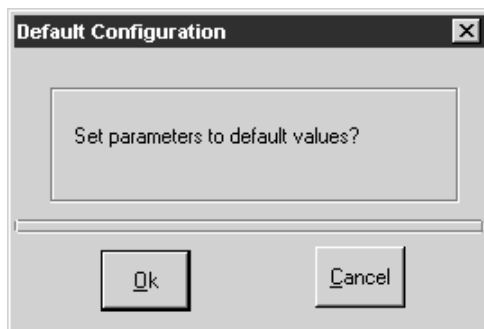

Figure 6-18. Default Configuration Window
1. Select **Options>Configure>Factory Defaults**. The Default Configuration window will open, as shown in Figure 6-18.